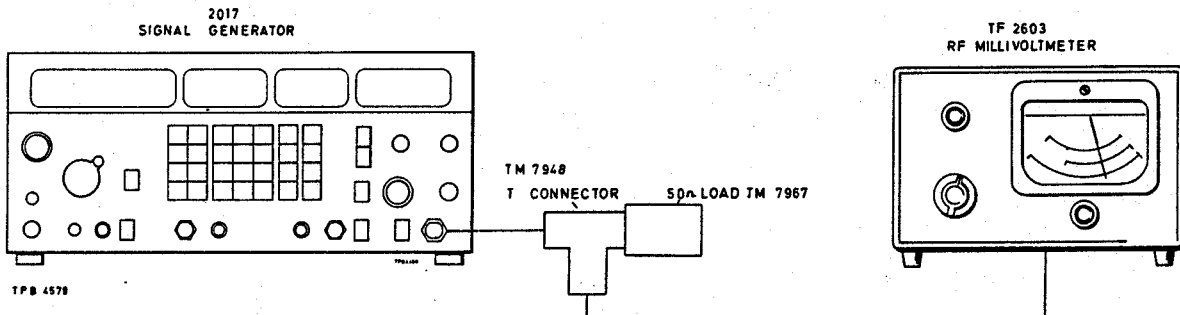

Fig. 7 Test gear arrangement for r.f. output measurements
- (1) Set the MODULATION OSCILLATOR, AM and FM MODULATION switches to OFF.
- (2) Enter an RF LEVEL of +13 dBm (2 V e.m.f.).
- (3) Connect the millivoltmeter to the output of the signal generator see Fig. 7 below. Set the millivoltmeter to its highest range.